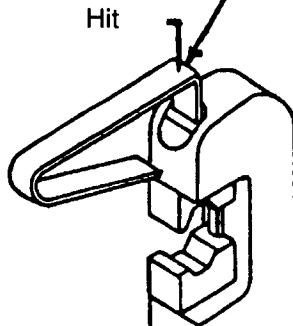

FIGURE 14
2. For upper die, position extraction tool (fig. 14) and hit top of tool.